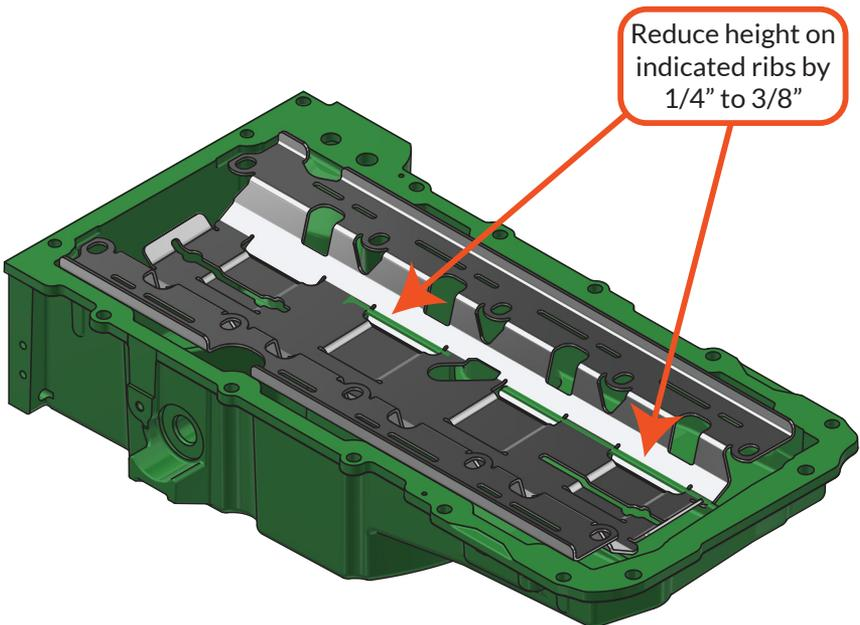

Figure 1 - C6 Corvette Internal Oil Pan Rib to Modify
- After performing the modifications shown in Figure 1, this part is CAD-verified to fit the C6 Corvette oil pan.